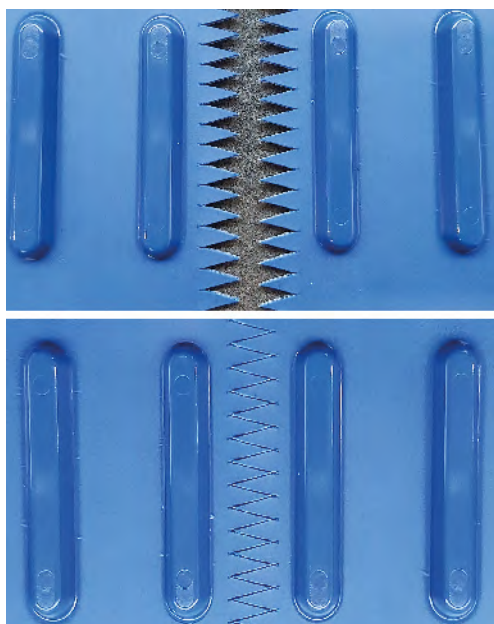

Fig. 15
- c. By means of a cut "on site" using a F700M finger puncher for widths up to of 1200 mm (see figure 15) based on the punching plate used;